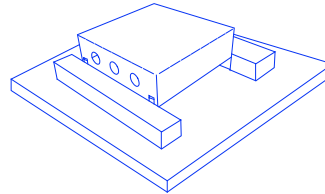

Fig 5
7. The assembled insulation guard can now be fitted over the back of the luminaire in the loft void – Fig 5 in preparation for the installation of the loft insulation.